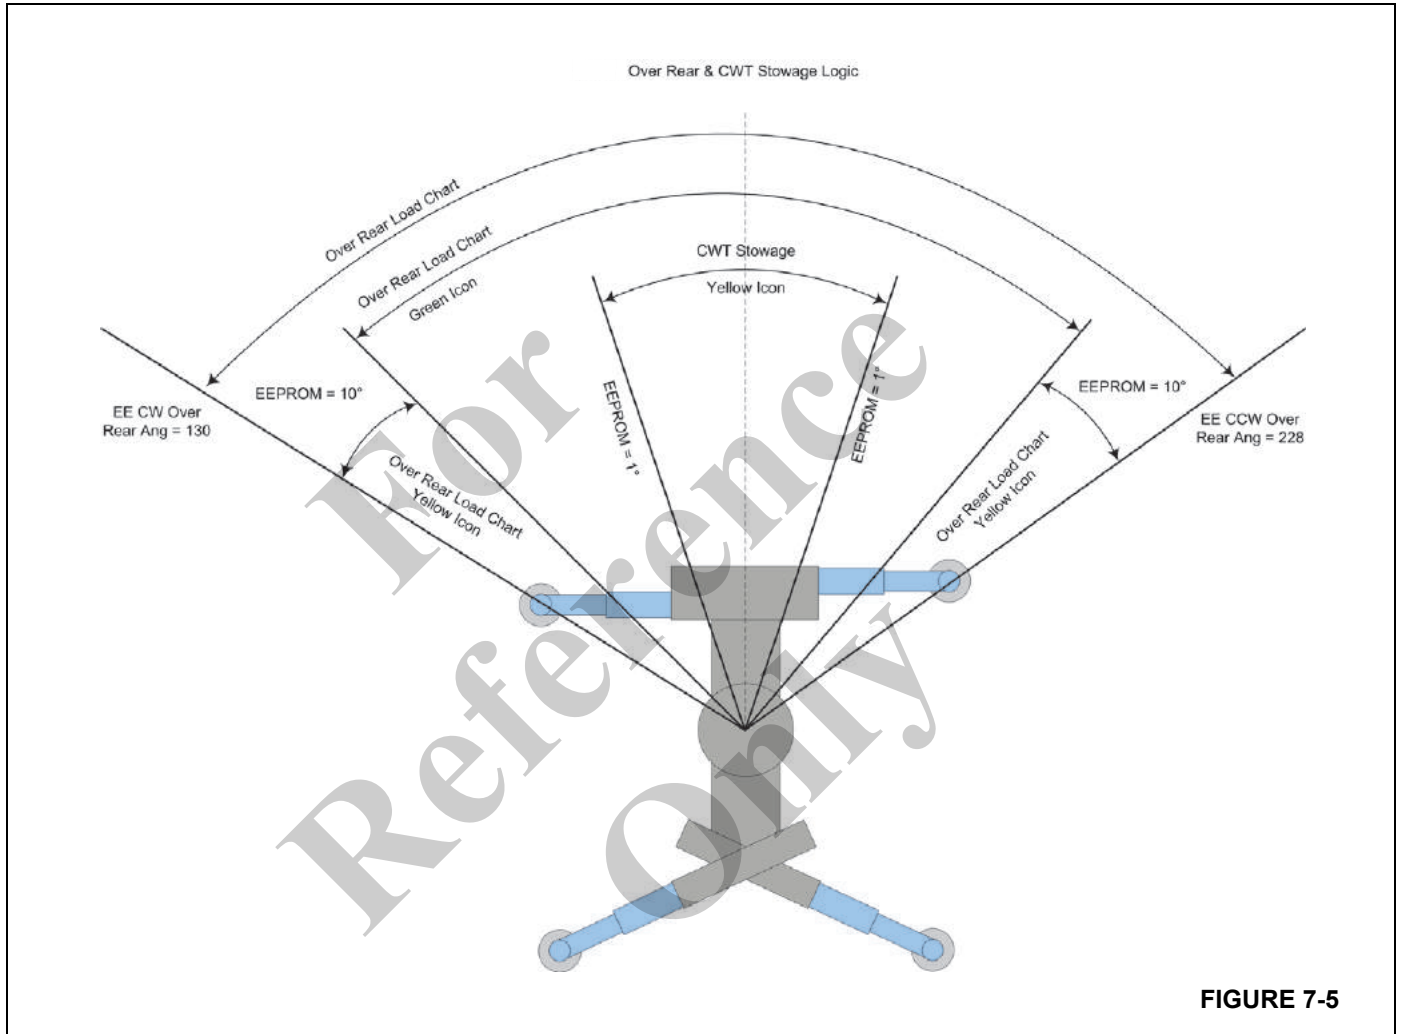

FIGURE 7-5
10° of inside limits of these EEPROM values, the icon is yellow. See Figure 7-5.
-  CWT Removal Slow Position — Shown to indicate that the operator is approaching (YELLOW) region where the CWT slab(s) can be pinned to the turret/box. See Figure 7-5.